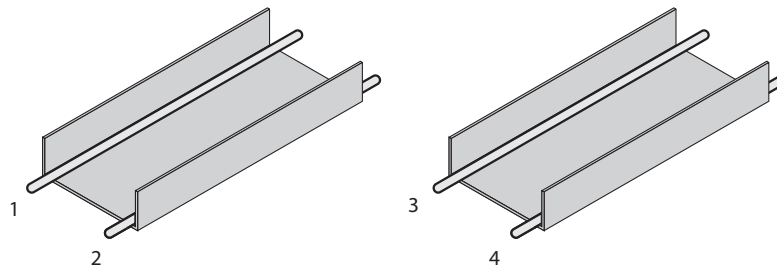
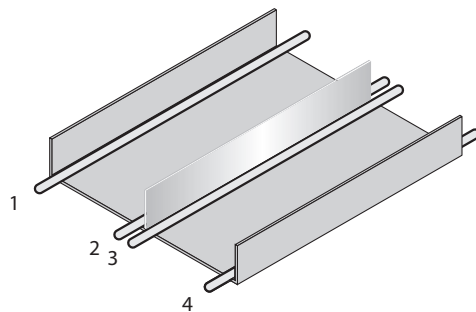

Figure 6: Ideal laying - Place cables in different cable channels
Figure 7: Alternative laying - Separate cables with metallic separators
- ▷ Cables in groups 1, 2 and 3, 4 must be routed in different cable channels or metallic separators must be used, see figure 6 and see figure 7. This applies particularly where cables of devices with a high level of radiated emission, such as frequency converters, are laid parallel to sensor cables.